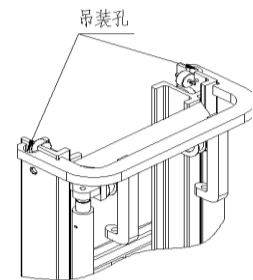

Figure 2-39
- (1) Figure 2-39 shows the lifting system